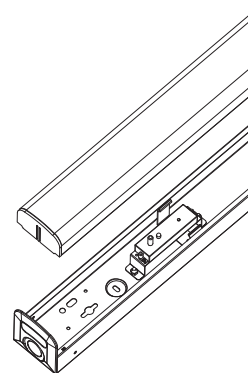

Fig 3
2. Attach the sensor to the bracket with screws as shown in Fig.3.